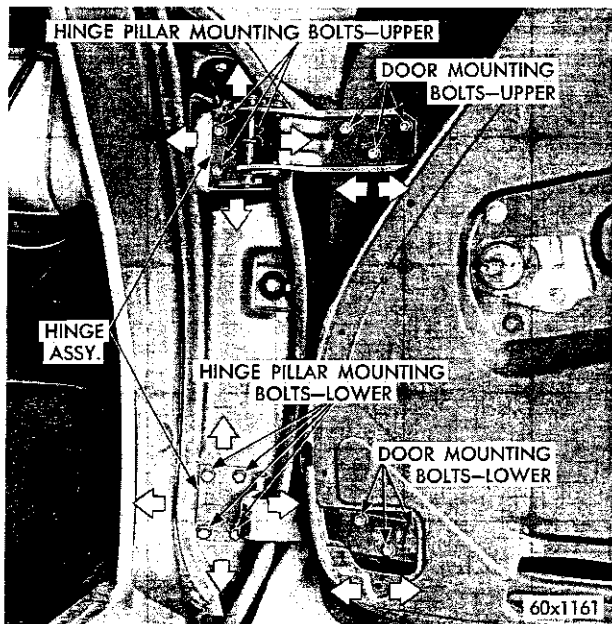

Fig. 9—Front Door Hinge Assembly (Chrysler)
(1) To raise or lower the door, remove the trim panel.
(2) Place a jack under the door as near the hinge as possible. (This will hold the weight of the door as the hinge bolts are loosened.)
(3) Scribe a line around the upper and lower hinge.
(4) Loosen the upper and lower hinge bolts, as shown in Figure 9.
(1) Moving the door forward or rearward is accomplished by loosening either the upper or lower hinge bolts. (See Fig. 9.)